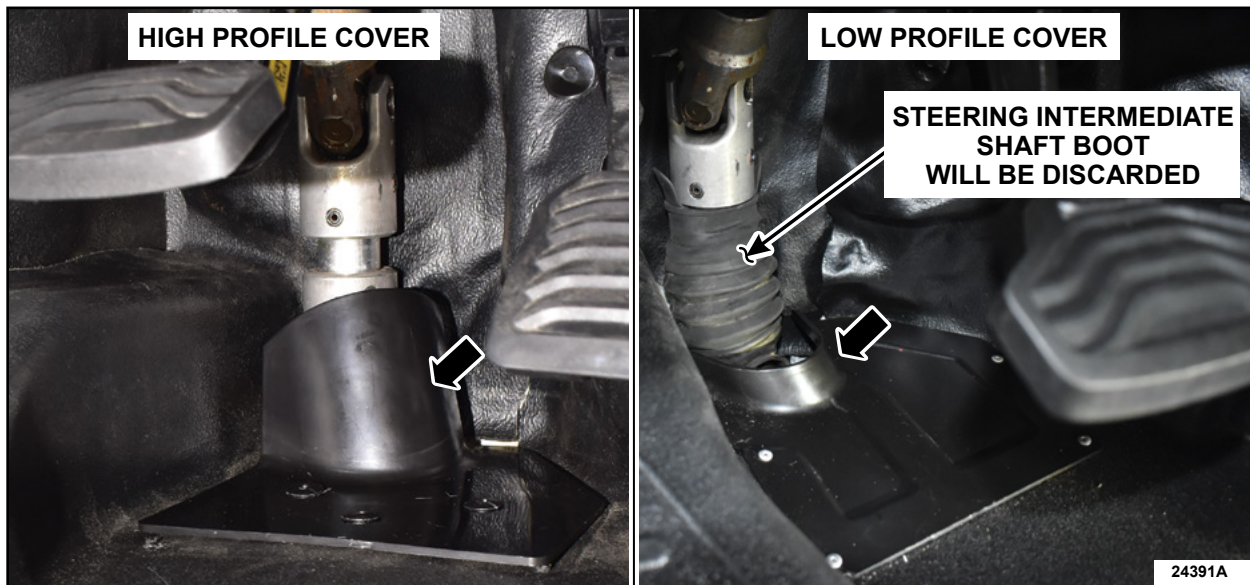

FIGURE 1
NOTE: This repair is to replace the steering column shaft to steering gear bolt. The steering shaft protective cover and a plastic plate have been updated and will be replaced at the same time. For low profile protective covers there are unique steps, including removing and discarding the lower steering column shaft boot, so be sure to follow the correct profiled steering column shaft protective cover shown in Figure 1. All vehicles will end up with the *new* style high profile protective cover.
1. Inspect the steering column shaft protective shield on the driver side floor as shown in Figure 1. Follow the procedure for the specific type of steering column shaft protective cover.